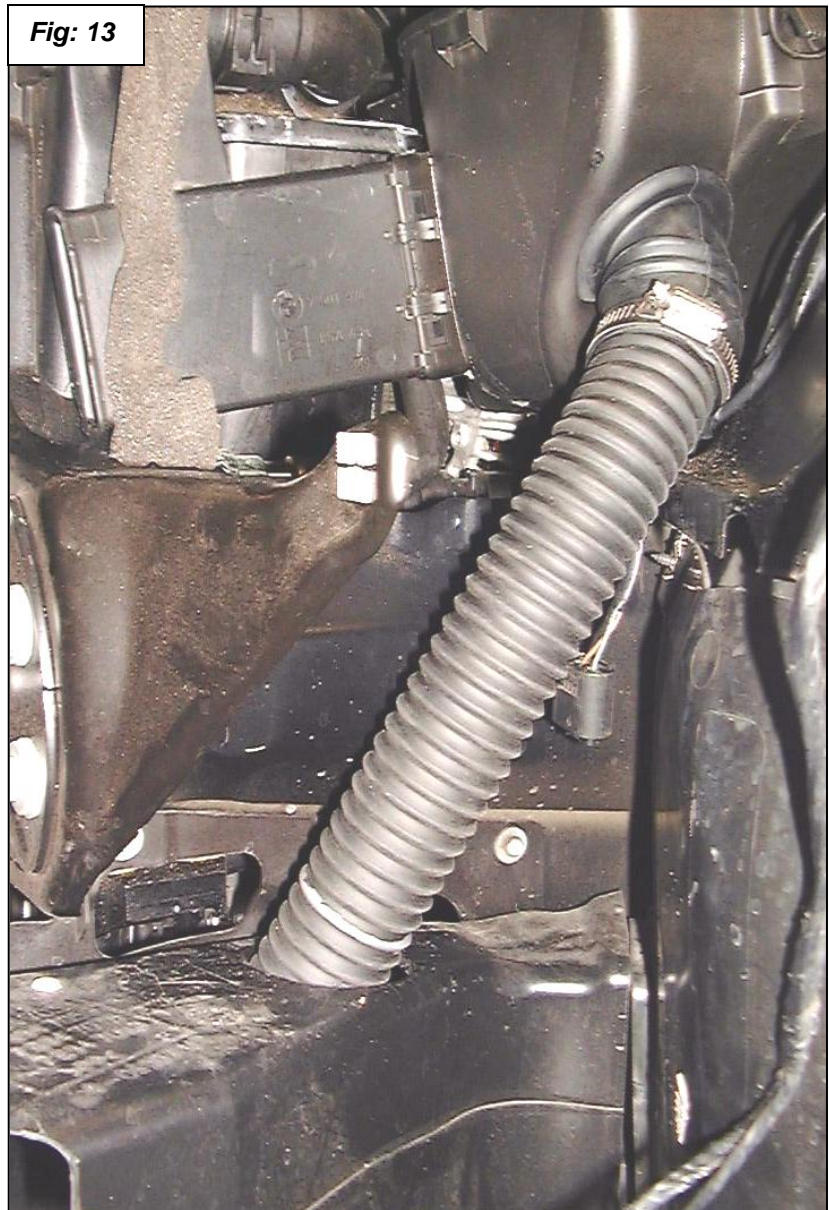

Fig: 13
13. Install the lower half of the air box into the car. Feed the flex air hose down into the hole you cut out of the brake duct. See figure 13. Do not fasten the box to the car yet because you will need to remove it to cut the hose to length.
14. Mark the hose as shown in figure 13 about 1" up from the brake duct.